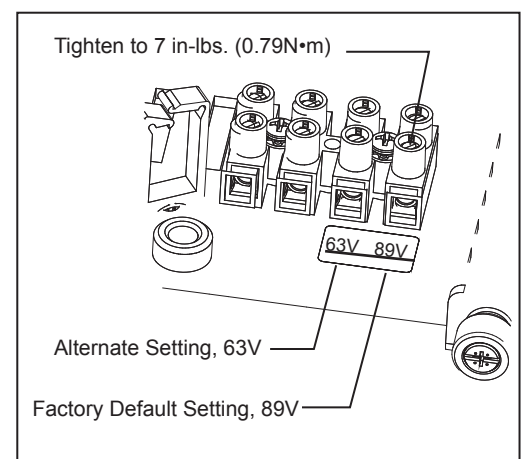

Fig. 3-1, Output Voltage Terminal Positions
2. Loosen the terminal screw and move the output voltage wire (Fig. 3-1) to the desired output voltage position on the terminal strip.